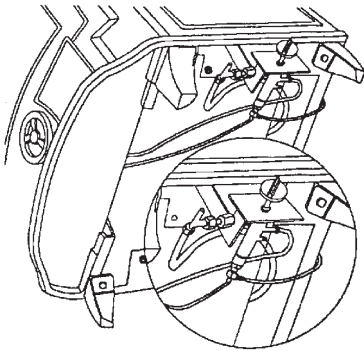

Fig.32
2. Open door (item 9).
4. Disconnect the 8mm gas pipe at the back of the control under the lip. (see Fig.32)